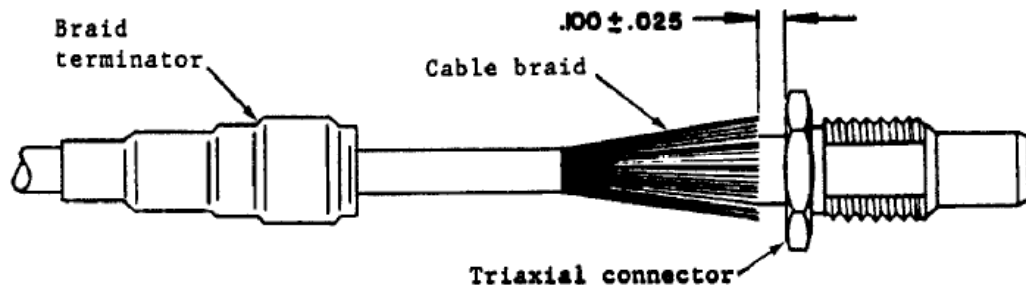

Figure 5-17
3. Trim the braid strands to the length shown in Figure 5-17.